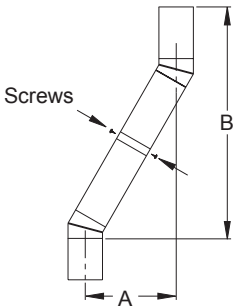

Figure 9 - Elbow Offset
Continue to assemble chimney sections as outlined above, making sure that both inner and outer pipe sections are locked together. When installing double wall snap-lock chimney together, it is important to assure the joint between chimney sections is locked. Check by pulling chimney upward after locking. The chimney will not come apart if properly locked. It is not necessary to add screws to keep the chimney together (exception, see Figure 9, page 9).
- All pipe connections between the offset and return must be secured with two screws on the outer pipe only (see Figure 9, page 9). Do not penetrate the inner stainless.